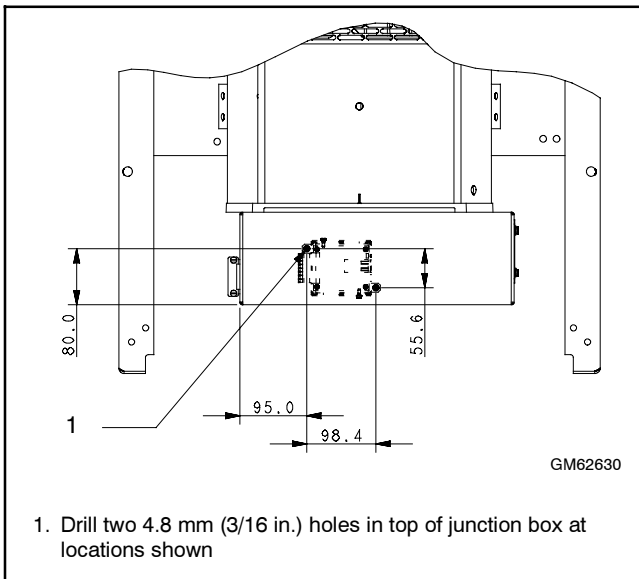

Figure 16 Network Bridge Mounting Hole Locations
- b. Drill two 4.8 mm (3/16 in.) mounting holes at the locations shown in Figure 16.